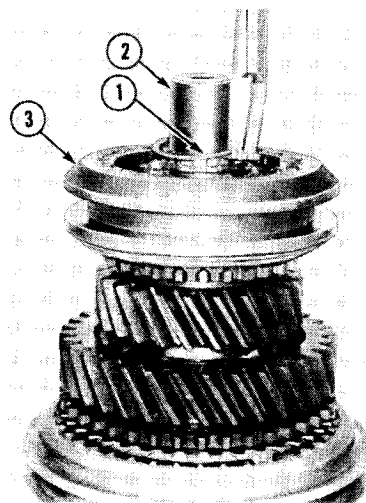

Figure 4-35
Remove snap ring (1, Fig. 4-35) and synchronizer assembly (3) from main shaft (2).